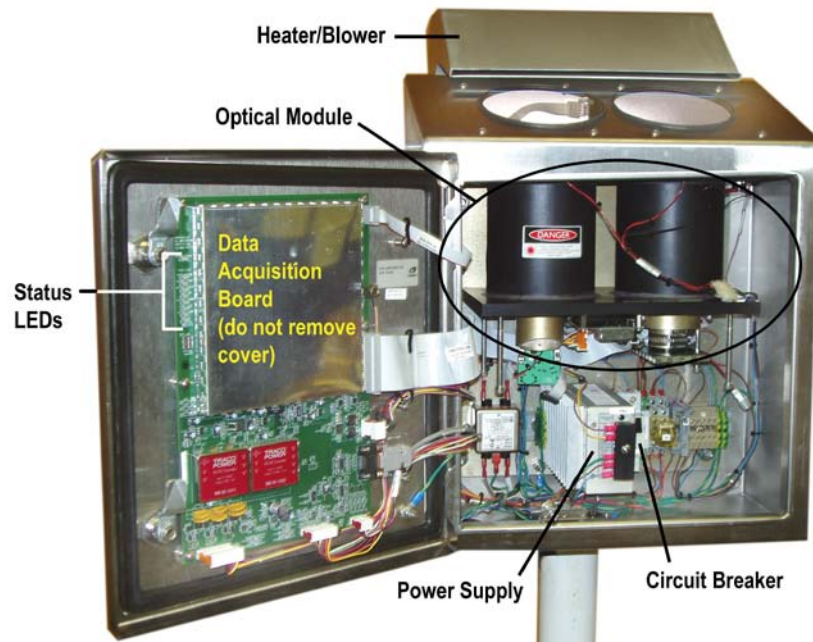

Figure 44. Ceilometer Components
1. Set the main circuit breaker in the 8339 to the OFF position (see Figure 44).